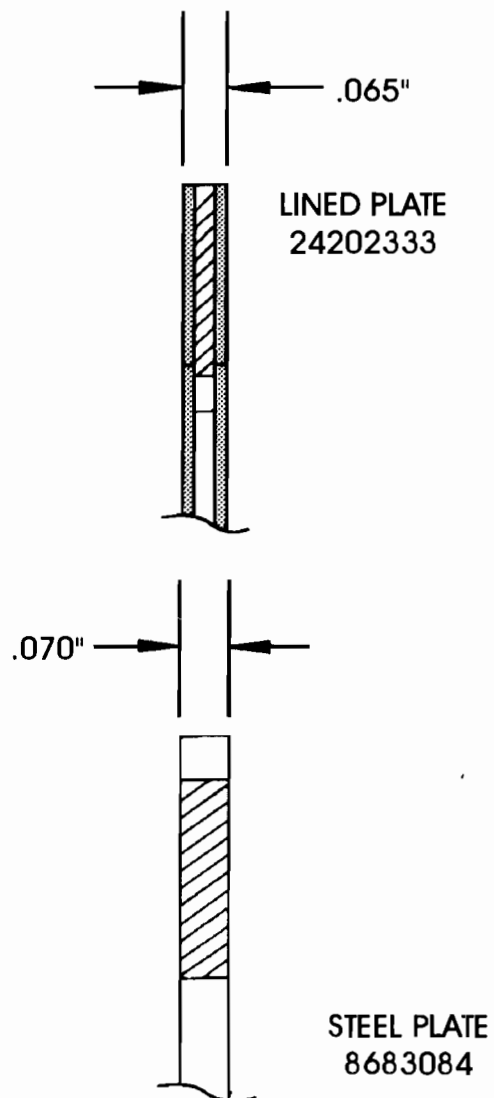

Figure 8
- (1) INPUT CLUTCH LINED PLATES - Were made thinner by approximately .026" to accommodate the thicker steel plates. The new design input clutch lined plates are approximately .065" thick, and the previous design lined plates are approximately .091" thick, as shown in Figure 8.
- (2) INPUT CLUTCH STEEL PLATES - Were made thicker by approximately .020" to improve heat displacement and thereby improve durability. The new design input clutch steel plates are approximately .070" thick, and the previous design steel plates are approximately .050" thick, as shown in Figure 8. The new design input clutch steel plates are now the same as the 3T40 (125C) steel plates.